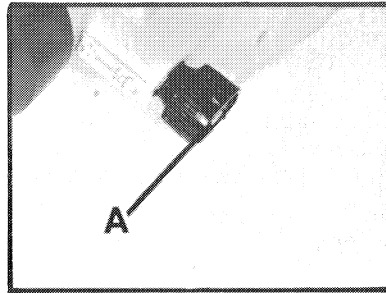

Fig. 3
2. For hammer-drilling operation, pull selector knob (A) Fig. 3, out of shallow slot in housing, turn 90 degrees and release. Twist chuck until knob seats into deep slot.